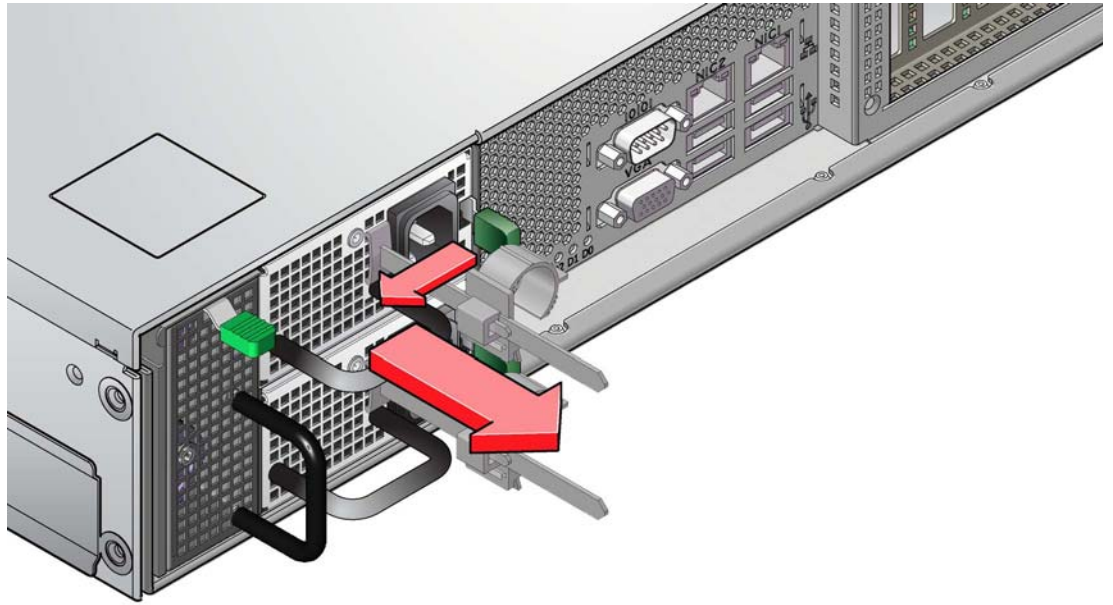

Figure 6-2 Removing a PSU (1)
- 3 Squeeze the locking tab to the left (Figure 6-2).